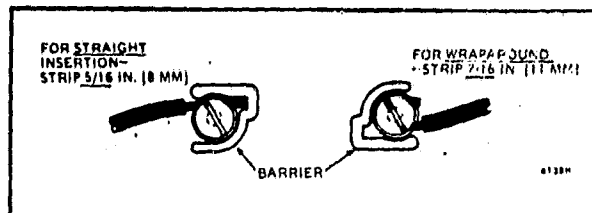
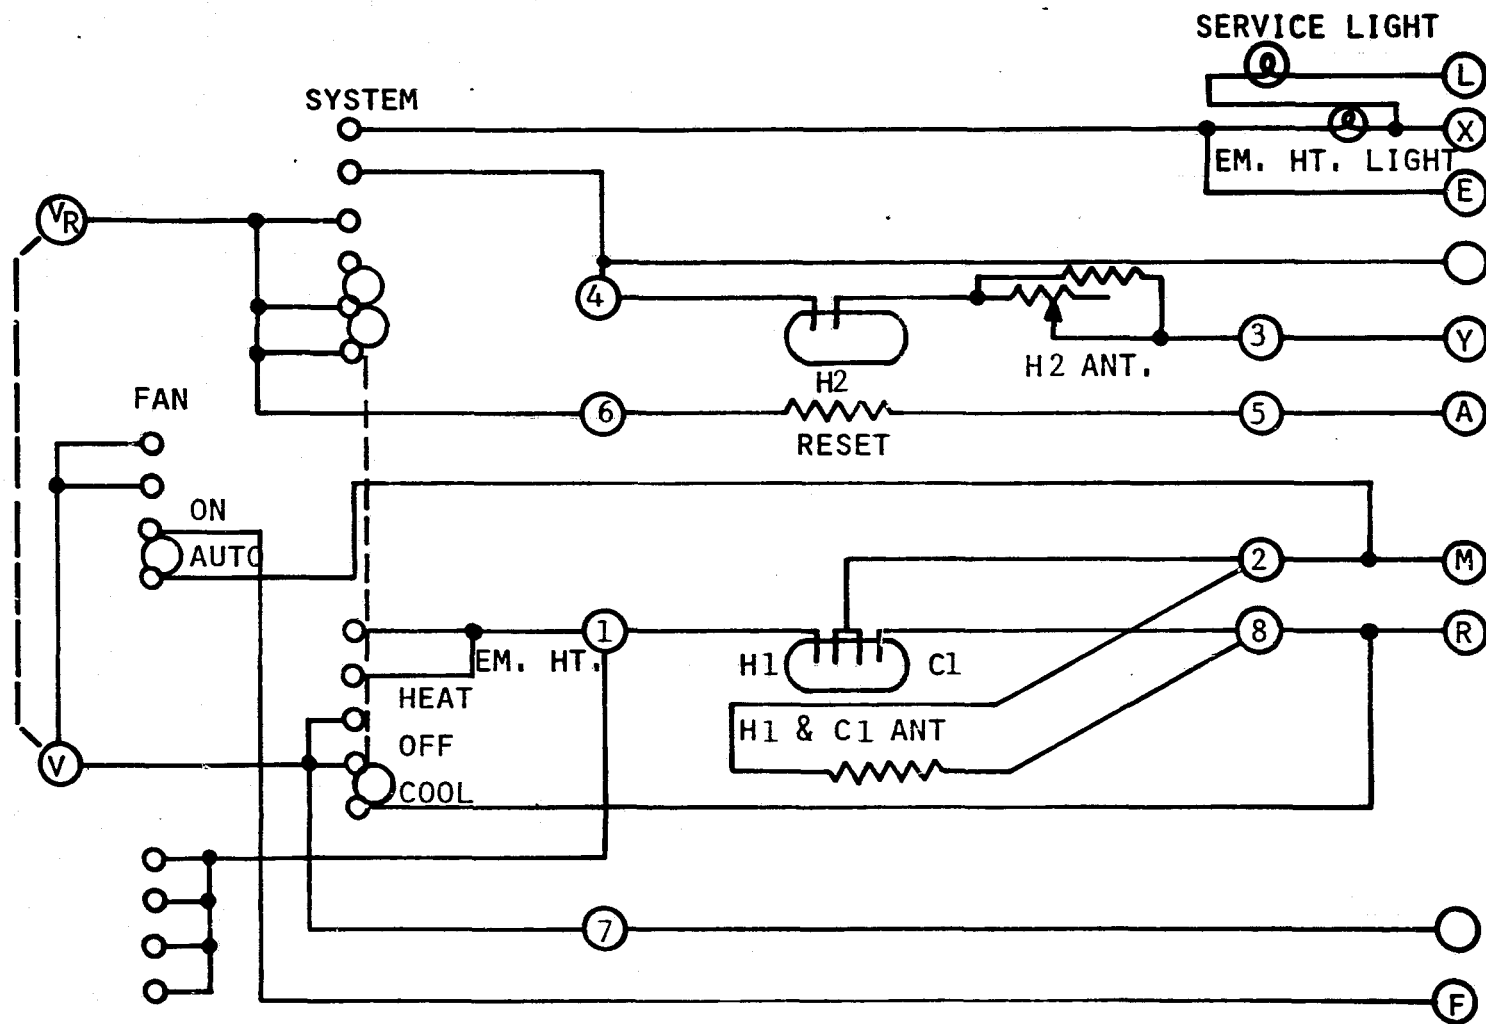

FIG. 4—BARRIER CONFIGURATION.
FIG. 5 - INTERNAL SCHEMATIC T872R1131/Q672L1144
4. Run wires as close to the subbase as possible. To prevent interference with the thermostat linkage, keep wire length to a minimum, and make certain wires do NOT protrude outward beyond standoffs (Fig. 4). Push excess wire back into the hole, and plug hole to prevent drafts from affecting thermostat operation.
The shape of the terminal barrier permits insertion of straight or conventional wrap-around (Fig. 4) wiring connections. Either method is acceptable. When making connections, strip wire to the length specified in Fig. 5.
Follow the equipment manufacturer's wiring instructions, if available, when wiring the subbase. Figure 5 shows internal wiring schematic for this unit.